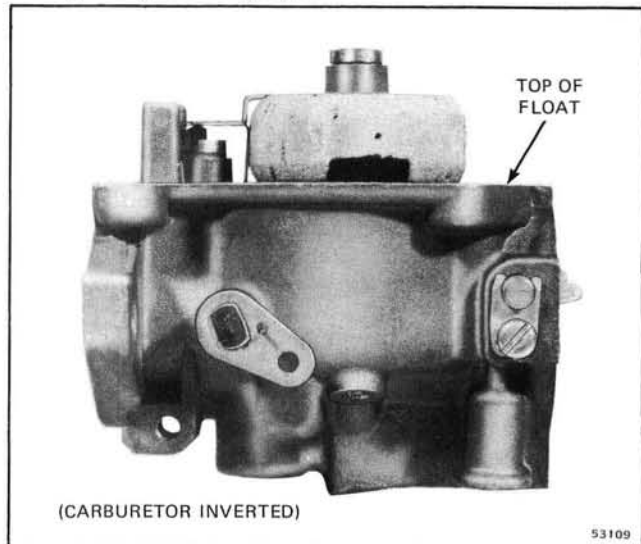

Figure 3-22. Float Level
b. Check for correct positioning of float. Turn carburetor body upside down so weight of float closes needle. Top of float should be even with rim of casting. See Figure 3-22.